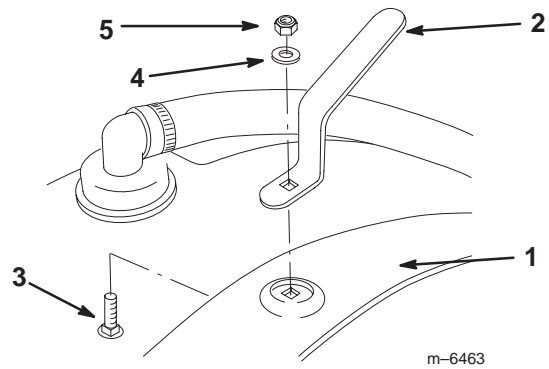

Figure 2
3. Install the upper hose hook as shown in Figure 2, using a carriage bolt (5/16 x 3/4 inch), a washer (3/8 inch), and a flange nut (5/16 inch).